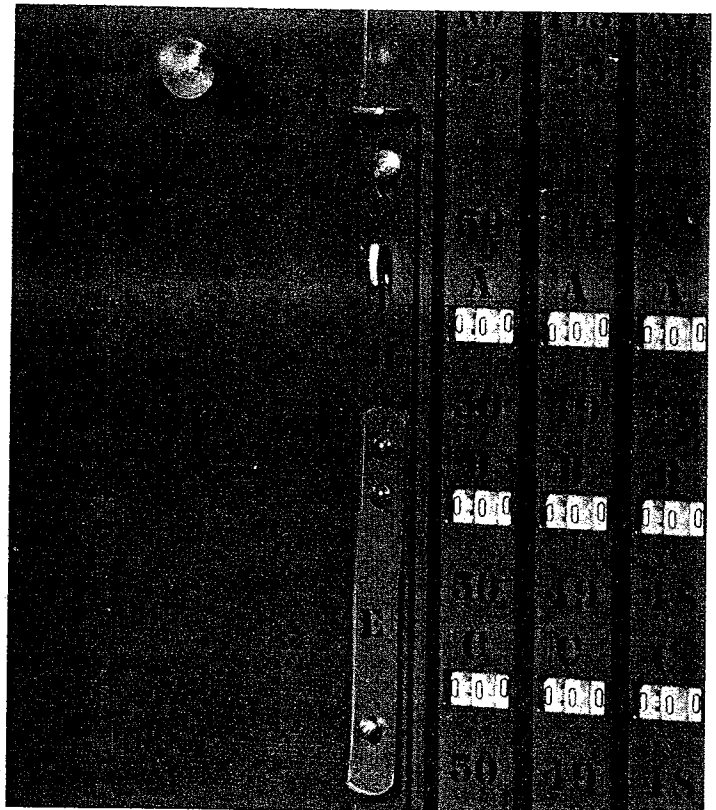

Figure 12. "C" Shield Plate
(Figure 12)
3. When Locking Bar "D" engages Locking Clips, press downward until Spring Latch "E" is secured on stud. (See Figure 12)